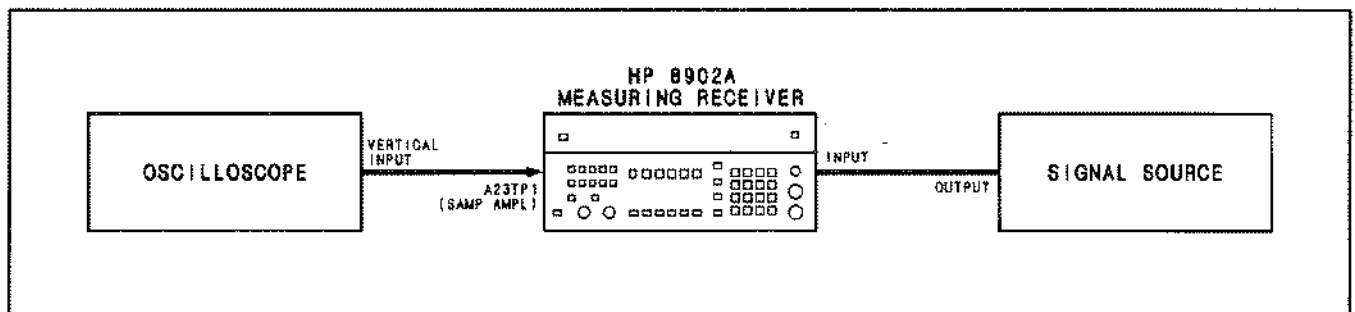

Figure 5-2. Sampler Efficiency and Offset Adjustment Test Setup
2. Connect the equipment as shown in Figure 5-2. (The oscilloscope input should be ac coupled. The signal source can be connected either to a sensor module or directly to the Measuring Receiver's INPUT.)